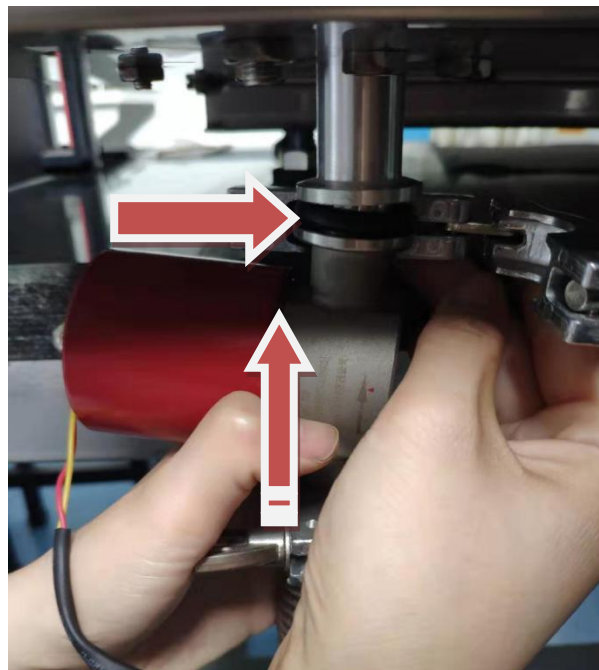

Figure 3-12 Note the seal and arrow direction at the joint
Step 2 Connect the flapper valve to the vacuum hole on the back of the machine with a seal ring in the middle, note the direction of the flapper valve arrow, as shown in Figure 3-12: